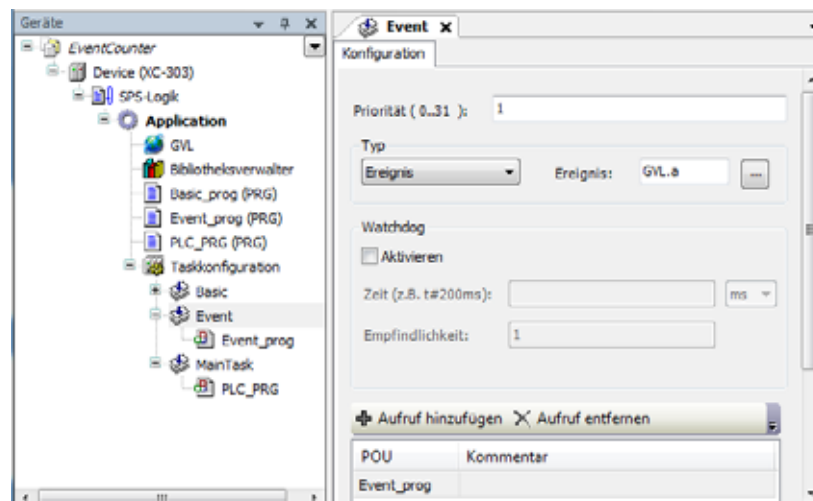

Figure 51: Creating an event controlled task
- ▶ Create a task of type "Event" named "Event" as shown in Figure 51.